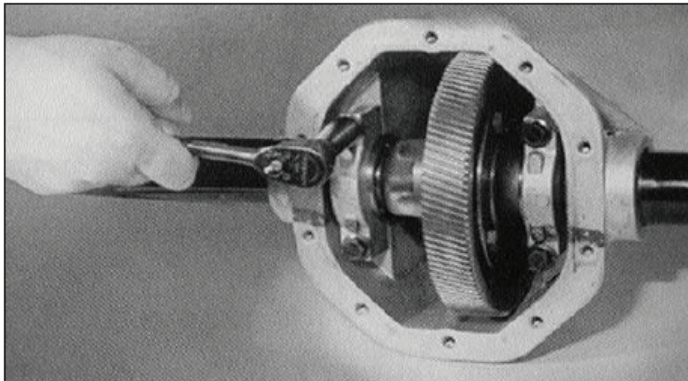

Figure 7-12. Removing Bearing Caps
9. Remove four bearing cap bolts (3) and both bearing caps (2). See Figure 7-12.